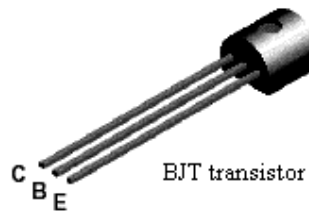

Fig.2: Typical Package of the BJT Transistor
When looking at the curved face of the typical package of the BJT transistor as shown in Figure 2, the emitter (E) is on the right, the base (B) is in the middle and the collector (C) is on the left side of the package.